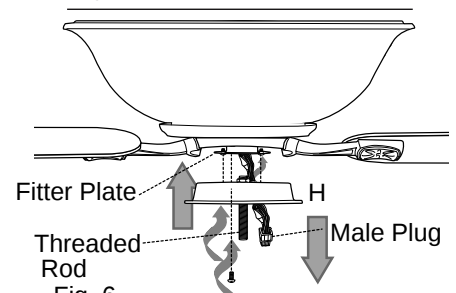

Fig. 6
6. Raise switch housing plate (H) to motor, allowing the male plug from the motor to come through the square hole in the switch housing plate (H). Align slotted holes in switch housing plate (H) with loosened screws in fitter plate and twist switch housing plate (H) to lock. Re-insert screw that was just removed, and then tighten all three screws. [Fig. 6]